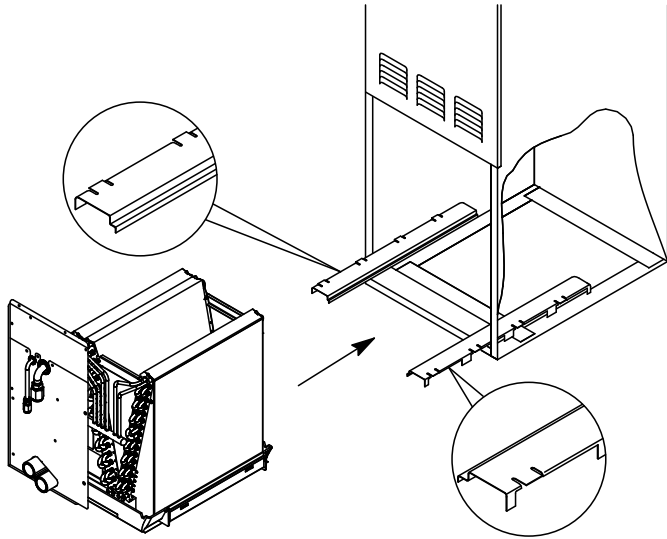

Fig. 1 – Rails
7. Position rails inside furnace as shown in Fig. 1. Slide coil into furnace, nesting drain pan inside rails.